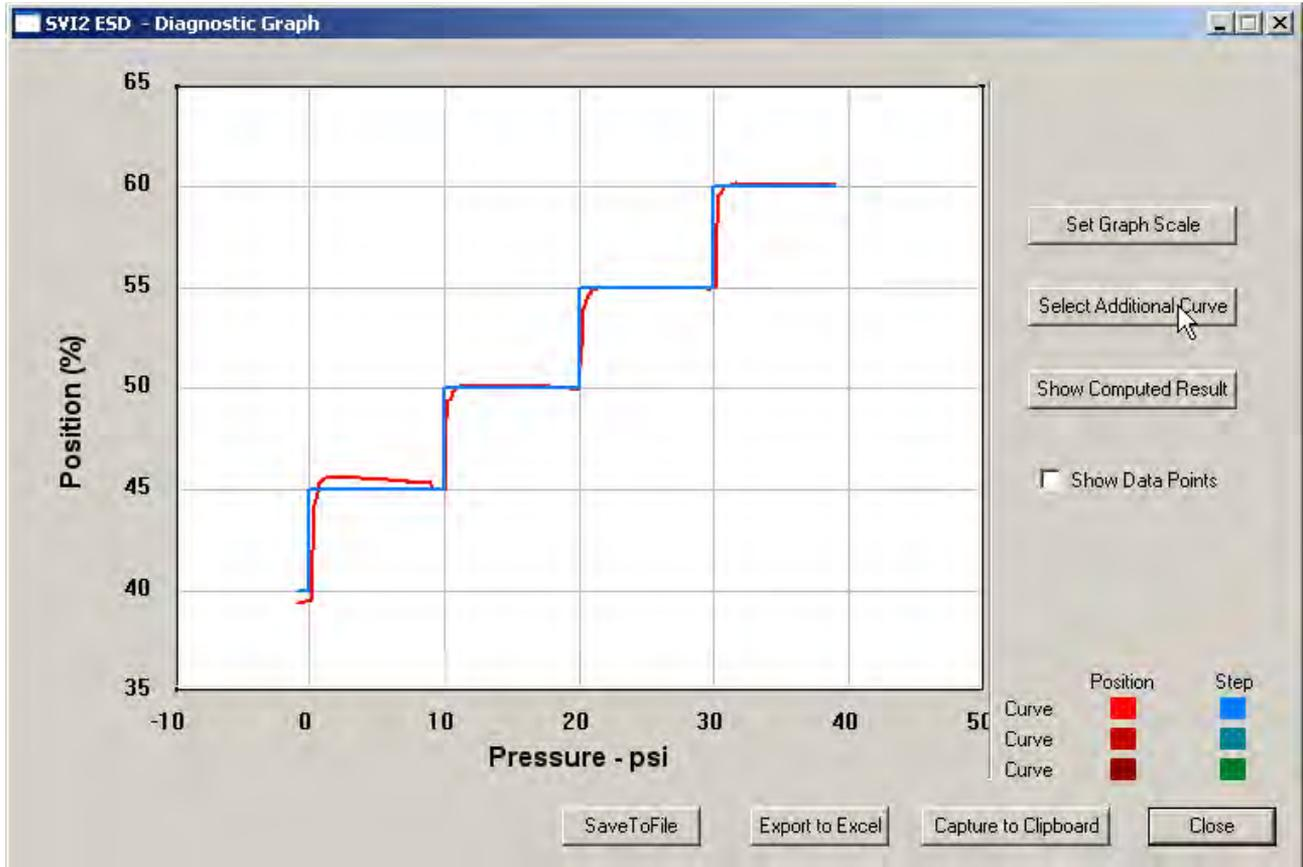

Figure 183 Starting Select Additional Curve
1. Click **Select Additional Curve** (Figure 183).